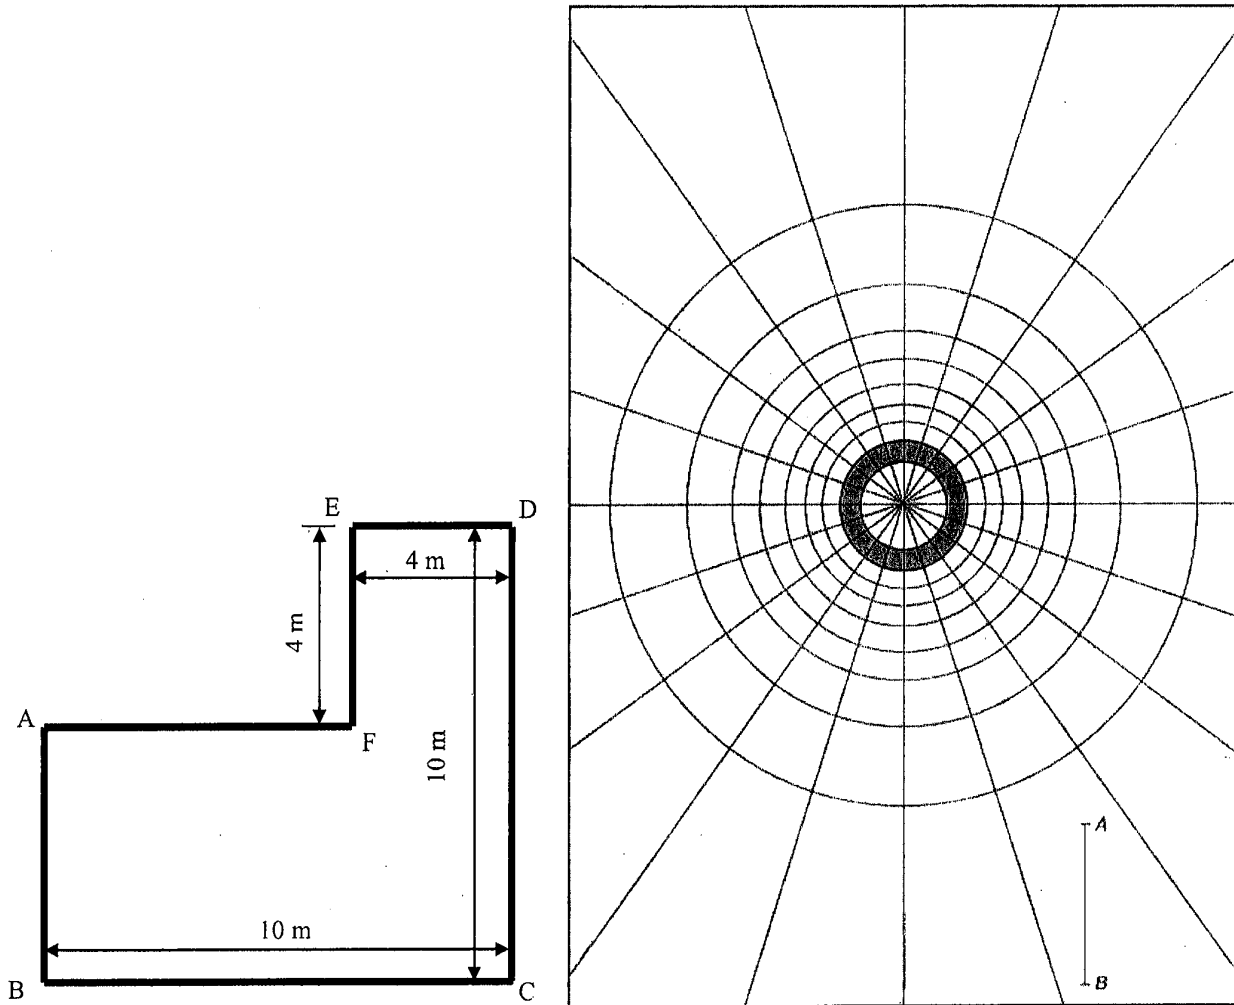

Fig. 2 Uniformly loaded area and Newmarks' Chart (Q. 3)
- (b) A 6 m high vertical supports a saturated, cohesive backfill with horizontal surface. The top 3 m of the backfill weighs  $18 \text{ kN/m}^3$  and has an apparent cohesion of  $18 \text{ kN/m}^2$ . The bulk unit weight and apparent cohesion of the bottom 3 m of the backfill are respectively  $20 \text{ kN/m}^3$  and  $24 \text{ kN/m}^2$ . What is the likely depth of tension cracks behind the wall? If tension cracks develop, what would be the total active pressure? Draw the pressure distribution diagram and determine the point of application of the resultant pressure. (10)
3. Define the 'Equivalent Point Load Method'. The Fig. 2 shows a uniformly loaded ( $500 \text{ kN/m}^2$ ) ground ABCDEFA. With the help of the Newmark's Chart determine the distributed stress on a point 5 meter below (vertically) the corner point F. Compare the stress intensities obtained by 'Equivalent Point Load Method' and through the 'Newmarks' Chart'. (16)